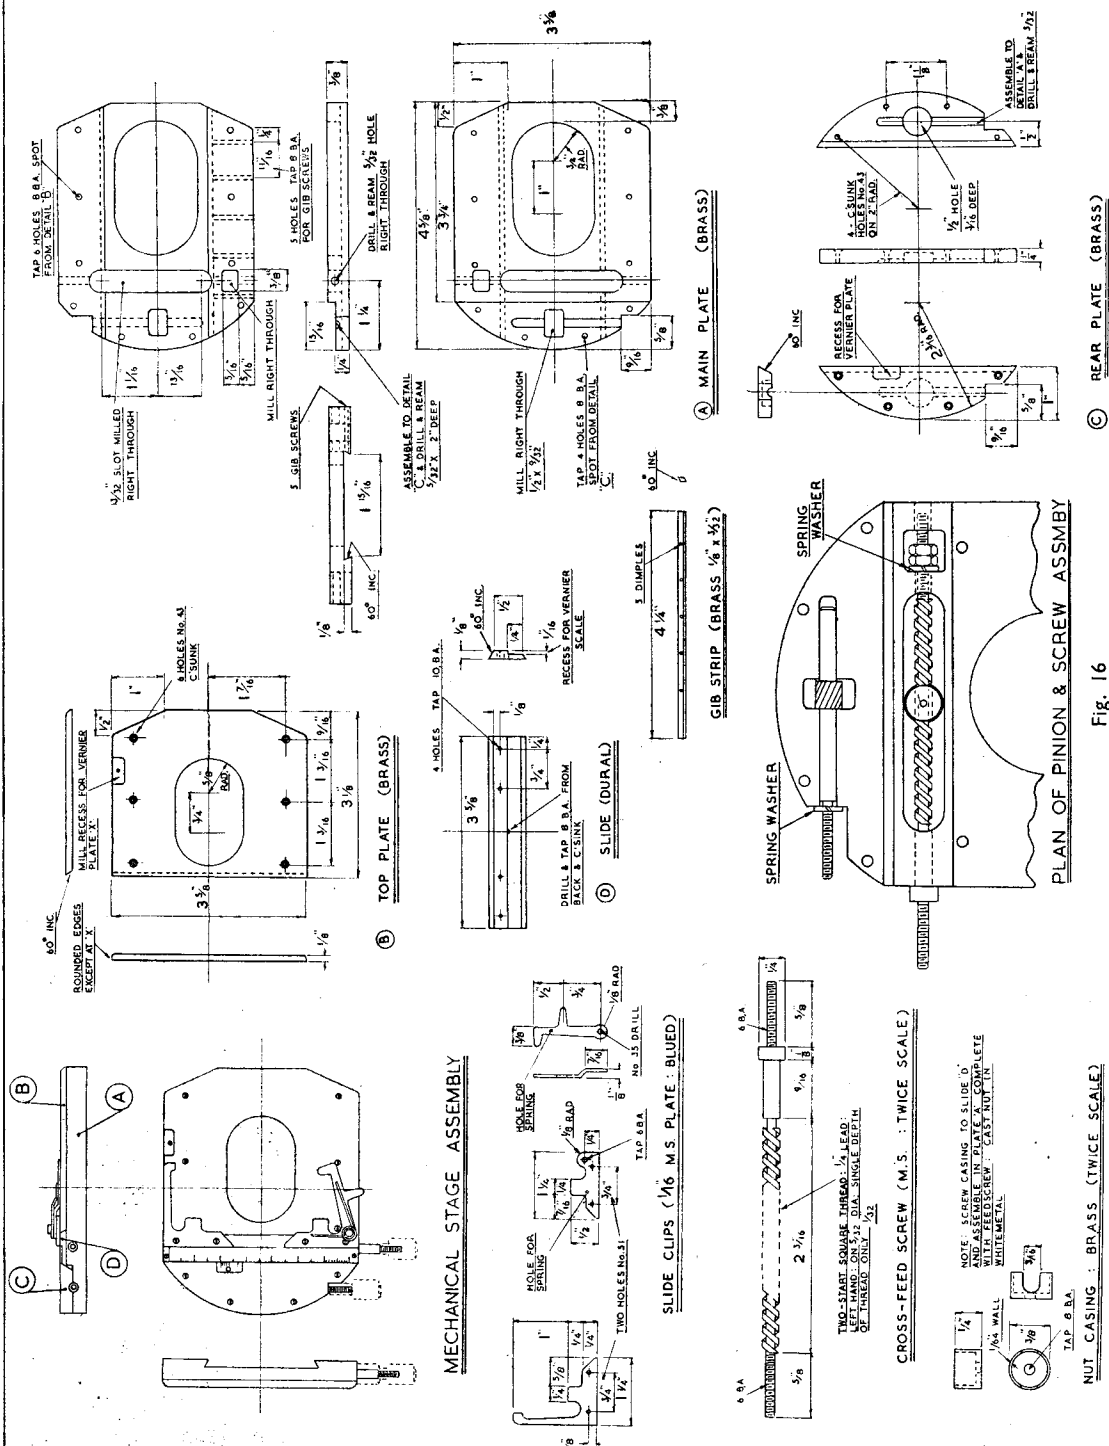

Fig. 16
This is probably the most difficult component of the whole instrument to construct, and requires a considerable amount of accurate milling and drilling. The main body of the slide is made from a plate of hard brass, $\frac{3}{8}$ in. thick. To the top of this, two plates are screwed, thus concealing the milling, and providing the slides in which the small cross-slide operates. In this way we also obtain the split bearing for the pinion shaft which operates the forward and backward motion. Drawing (A), Fig. 16.
Before proceeding to a more detailed account of these movements, it is as well to draw attention to the small feed-screw and nut shown in the lower left-hand corner of Fig. 16. The screw is likely to provide a nice exercise in screwcutting, as it is a left-hand, square thread, two-start screw, of $\frac{1}{8}$ in. lead, cut on a piece of 5/32 in. mild-steel. On this diameter it is impracticable to cut the thread to the depth that is theoretically correct; i.e. $\frac{1}{16}$ in. single depth, as this would leave a core diameter of only 1/32 in. A nominal thread depth of 1/32 in. has been specified, although the thread may be even shallower than this without any dire consequences, because the load is so exceedingly light. As a working note it may be mentioned that the width of the square threading tool must be $\frac{1}{16}$ in. with plenty of side clearance, and that the lathe must be geared to cut 4 t.p.i. As the thread is left-hand, cutting will commence at the chuck end of the job, and traverse towards the tailstock. Indexing for the two-starts is best done by chalking the changewheels.
The method of assembly of the feedscrew within the plate will be seen in the enlarged drawing at the centre-bottom of Fig. 16. This is drawn as if viewed from the top, with the small cross-slide omitted for clarity. In assembling it is first necessary to slide the cross-slide into position, and secure the nut with a small countersunk screw. The feed-screw is then pushed into the bearing hole and screwed into the nut. When a sufficient amount of the 6-B.A. thread protrudes into the milled slot, the two lock-nuts and the spring